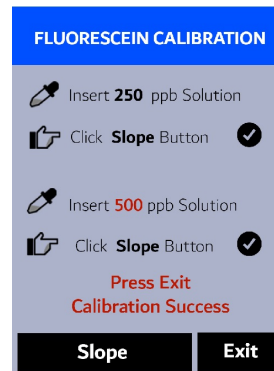

Figure 25.
17. If the calibration succeeds, a second checkmark (  ) "Calibration Success" message will appear (Figure 25). Otherwise, a warning message is displayed.